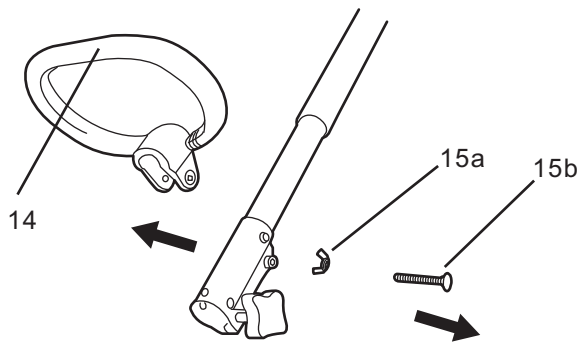

Fig. 1a
- > Loosen and remove the preassembled bolt (15b) and wing nut (15a) from the auxiliary handle (14) (Fig. 1a).